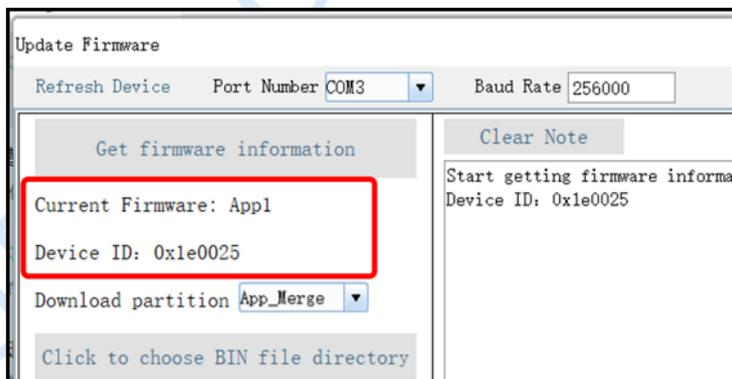

Figure 5-8 Obtain firmware information
Step 3: Click the Get firmware information button, then GUI will display the firmware information that is running in the MCU and the device ID, as shown in Figure 5-8;